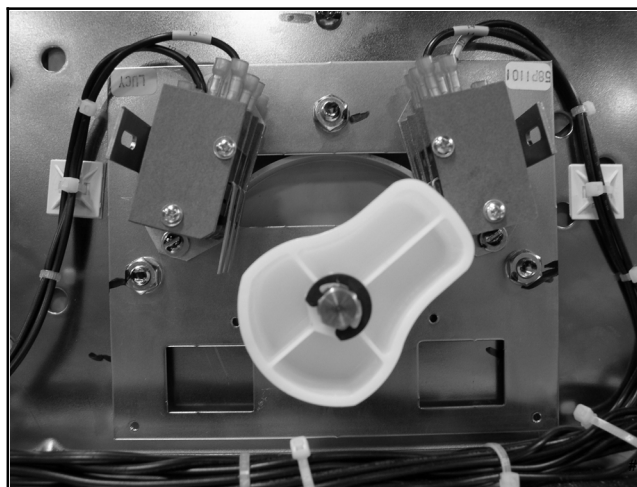

Figure 7-3 Microswitches
5. Note the location of the fast-on connectors to the microswitch terminals. See Figure 7-3.